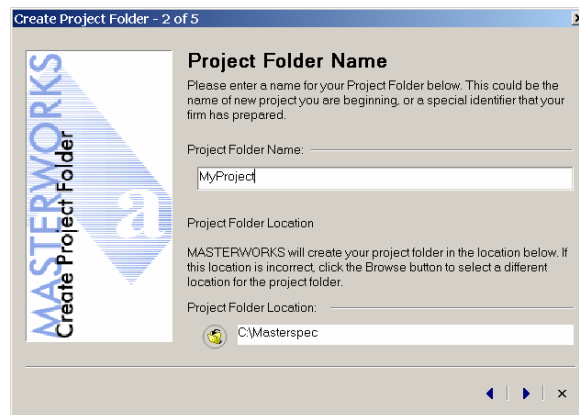

Figure 4-6 Set a Project Folder
2. **Create Folder Name** dialog (Figure 4-6). Enter a name for your new folder and, if necessary, change the folder location. By default, the default folder location is displayed. Additional sub-folders will be created based on the options set in the **New Project Folders** tab of the **MASTERWORKS Settings** dialog. Click the blue arrow to continue.